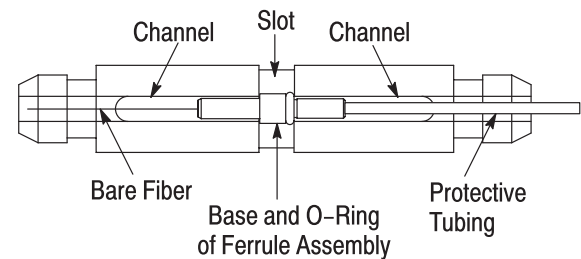

Figure 7
- 4. Place the assembly in either housing piece so that the base and the O-ring of the ferrule assembly sit in the slot, and the bare fiber lays in the channel at one end of the piece and the protective tubing lays in the channel at the other end of the piece. See Figure 7.